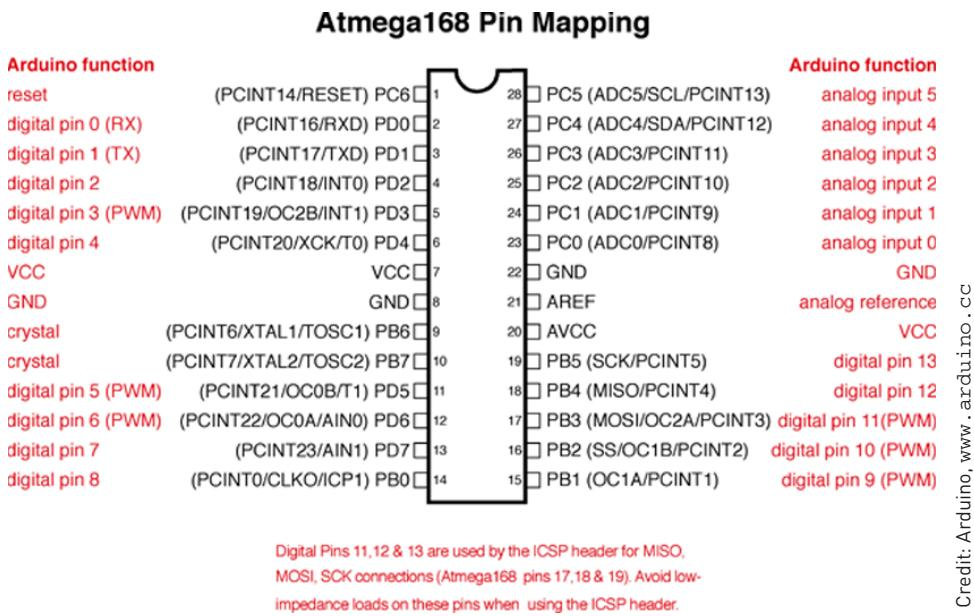

Figure A-4: Arduino ATMega Pin Mapping
The labels in parentheses represent alternative functions for each pin. For example, pins PD0 and PD1 are also the Universal Synchronous/Asynchronous Receiver/Transmitter (USART) Receive (RX) and Transmit (TX) pins, respectively. Pins PB6 and PB7 are the crystal connection pins (XTAL). In the case of the Arduino Uno, an external 16 MHz ceramic resonator is connected to these pins, so you cannot use these for general-purpose I/O. If you have trouble deciphering the pin labels, you can usually learn more about what they mean by searching the rest of the datasheet for those terms. The Arduino website has a diagram illustrating how the ATMega pins are connected to numbered pins on the Arduino board. You can find it at <http://arduino.cc/en/Hacking/PinMapping168>, and it is shown in Figure A-4.
Perhaps one of the best ways to learn about electrical design is to analyze the schematics of existing products, such as the Arduino. Figure A-4 shows the schematic for the Arduino Uno.